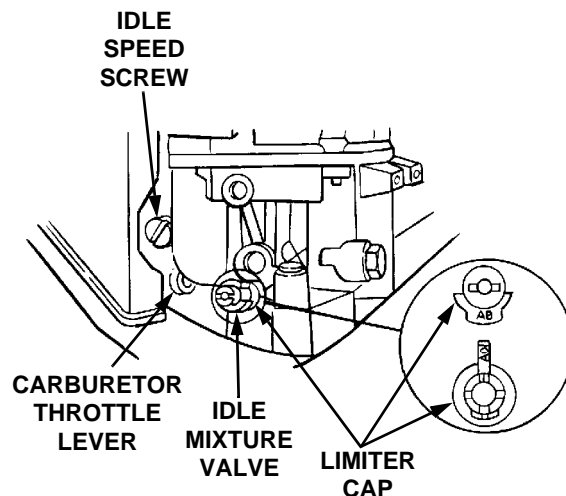

Figure 17
3. Rotate the carburetor throttle lever against the idle speed screw and hold it (See Figure 17).